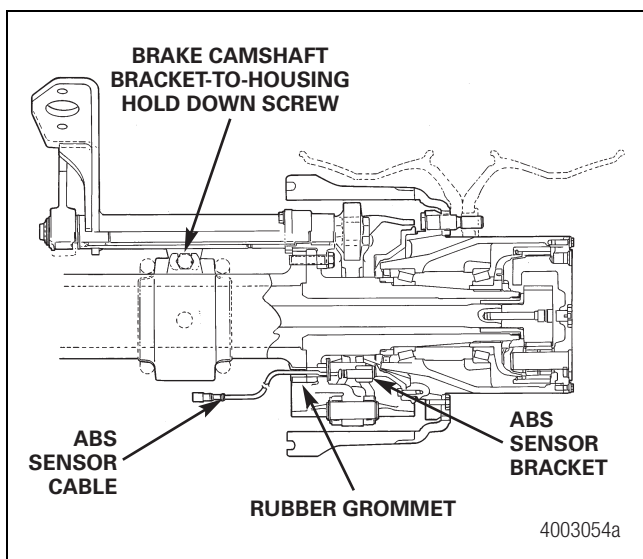

Figure 3.17
1. Remove the rubber grommet that secures the anti-lock braking system (ABS) sensor cable in the housing. Remove the ABS sensor bracket and cable assembly. Figure 3.17.